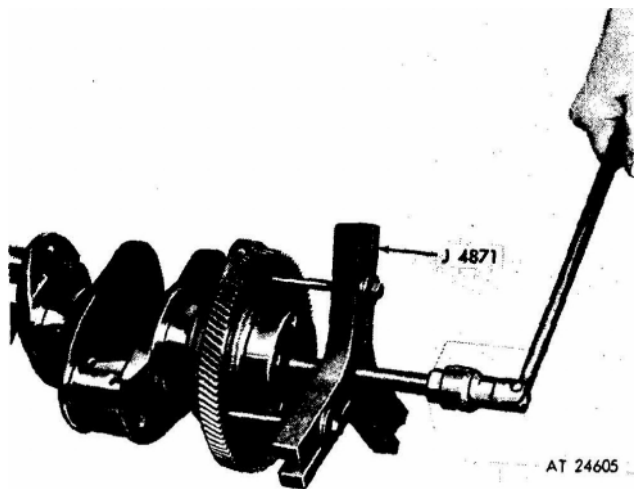

Figure 1. Removing crankshaft timing gear.
The crankshaft gear is keyed and pressed onto the crankshaft and drives the balance shaft gear (on In-line engines) through an idler gear. (See figures 5 and 6 under General Description.) Since the camshaft and balance shaft gears (on In-line engine) must be in time with the crankshaft gear, timing marks are located on the rim of the idler gear with corresponding *marks* stamped on the crankshaft gear, camshaft and balance shaft gears, as shown in figure 1, section 1.7.2. Timing marks IROVL and $IR\Delta VR$ are stamped on the rim of the crankshaft gear.
1. Attach bar type puller J 4871 to the crankshaft gear with three long bolts or hooks, flat washers and nuts through holes in the gear as shown in figure 1.